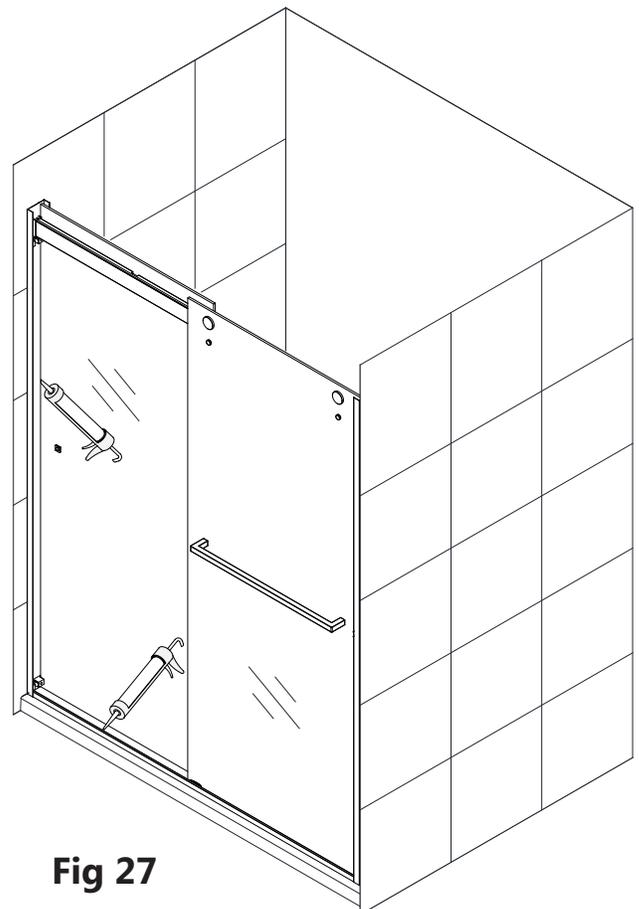

Fig 27
24. Apply a good quality mildew-resistant silicone on the walls and threshold along the bottom profile and wall profiles. **(Fig 27)**